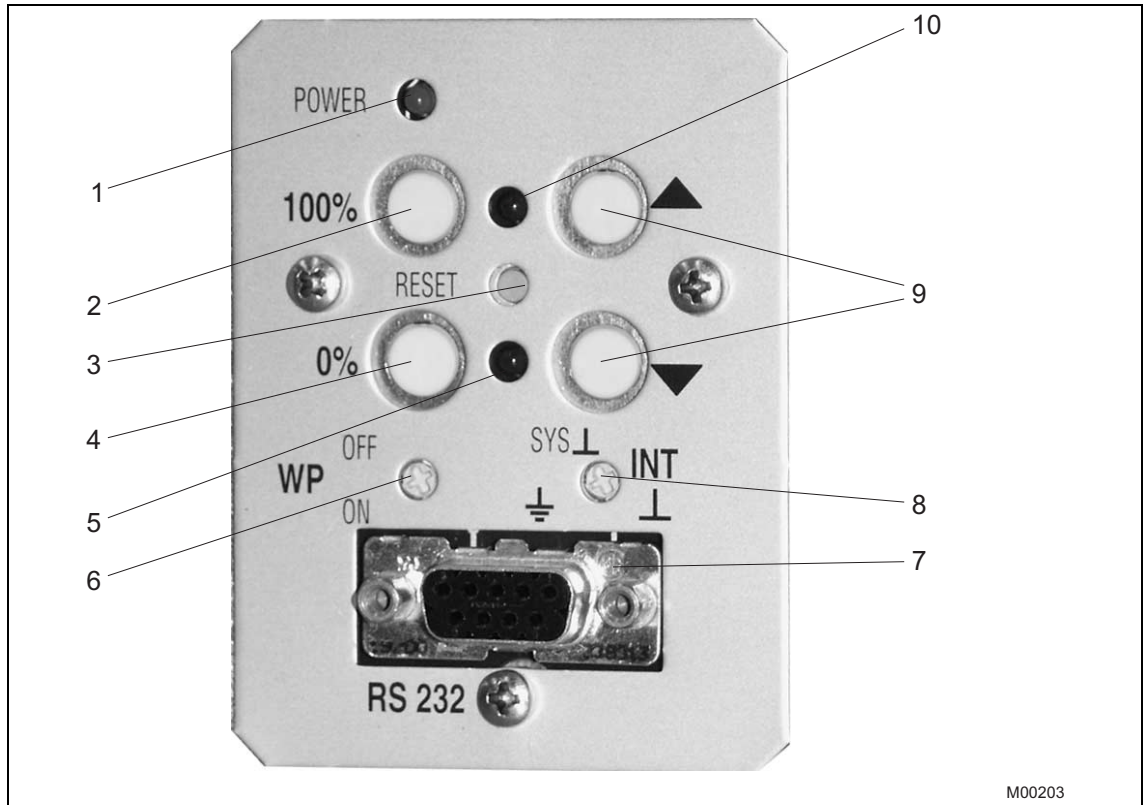

Fig. 16: Commissioning and service field (ISF)
- Switch the electronic unit to the "Device setup" operating mode. Press and hold both travel buttons (9) at once for approx. 5 s until both LEDs (items 5 and 10 in **Fig. 16**) flash in sync at a rate of 4 Hz.
(See page 26 **Fig. 16**: pos. 8)